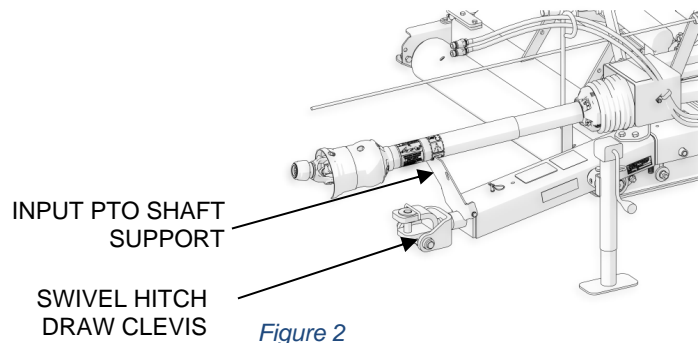

Figure 2
- 9) The TDR-X is equipped with a PTO support to aid in connecting the mower to the tractor. Once the PTO shaft is connected to the tractor, fold the PTO shaft support down onto the frame and secure it with the supplied cotter pin before operating – DO NOT LEAVE SUPPORT IN UPRIGHT POSITION. See Figure 2 page19